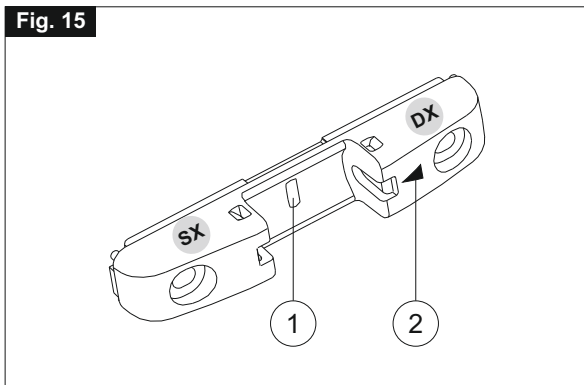

Fig. 16
- 4) **Fig. 16-** Position the quick coupling at a minimum height of 10 mm from the frame and mark the drilling points;